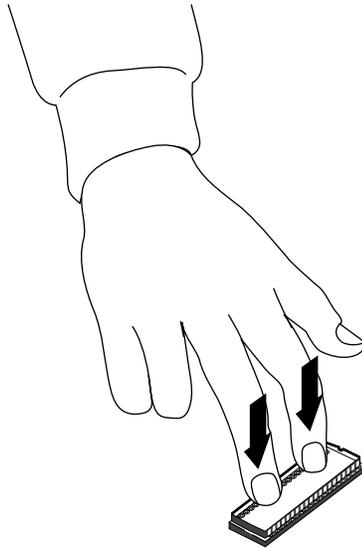

Figure 1-21 Pressing the PROM Chip Into the Socket
4. Once the pins are lined up, press down firmly on the top of the PROM chip until it is seated in the socket, as shown in Figure 1-21.